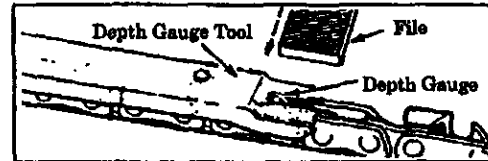

Figure 35
- a.) Place depth gauge tool over each cutter depth gauge. Figure 35.
- b.) File depth gauge with a flat file until it is level with the top of the depth gauge tool. Figure 35.
- c.) Maintain rounded front corner of depth gauge with a flat file. Figures 35 & 36.